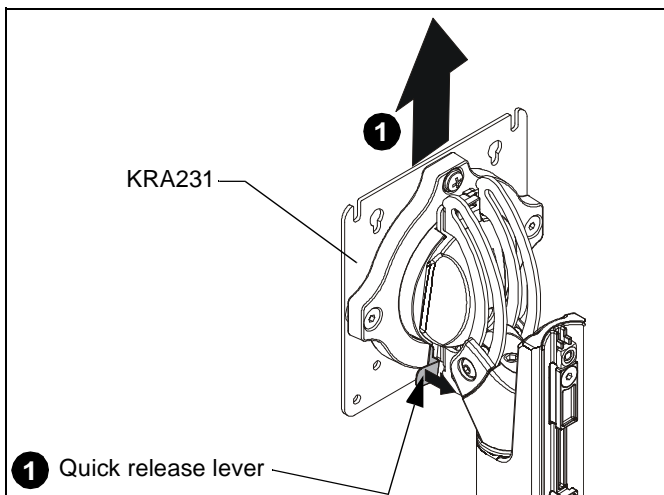

Figure 2
1. Remove quick release faceplate from KRA231 by pulling quick release lever and sliding faceplate off. (See Figure 2)